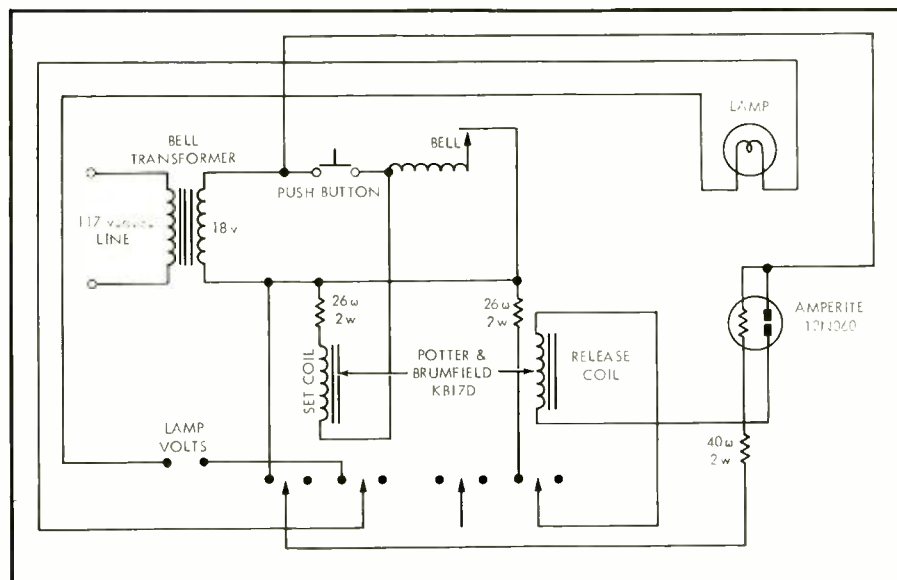

Fig. 1. Visual "doorbell" schematic.
A. Here is a schematic, Fig. 1, which should allow a light to remain on for a full minute after your doorbell has been rung. The bell transformer must supply